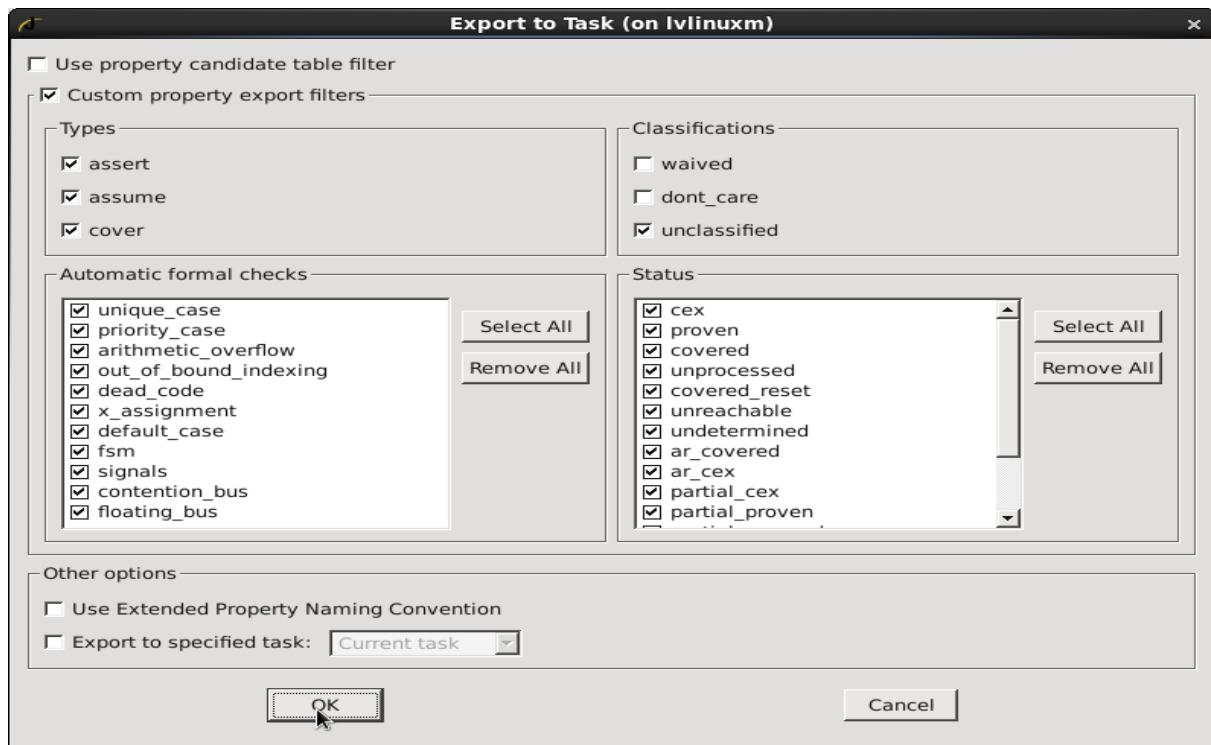

Figure 8 Export to Task 2
Step 4: Export to task. This is done by clicking on the drop down menu shown below and select “Export to task” which brings up another window as shown in figure 8